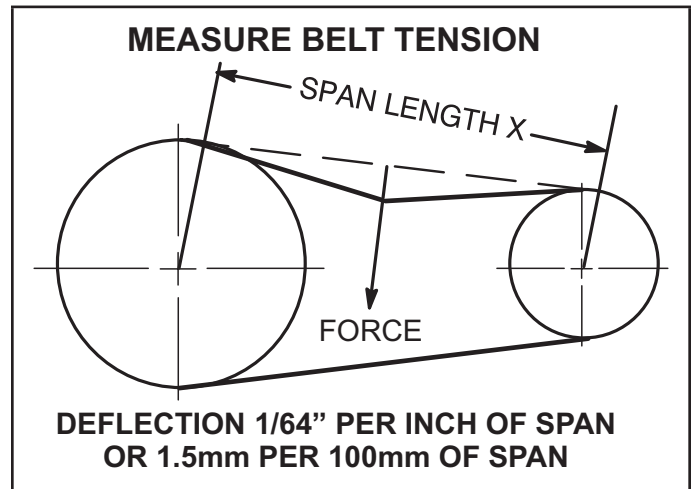

FIGURE 28
- 1 - Measure span length X. See FIGURE 28.
- 2 - Apply perpendicular force to center of span (X) with enough pressure to deflect belt $1/64$ " for every inch of span length or 1.5mm per 100mm of span length.